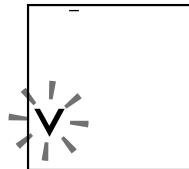

Fig.12
2. Press "START/STOP". Air is exhausted from the cuff (fig.12).